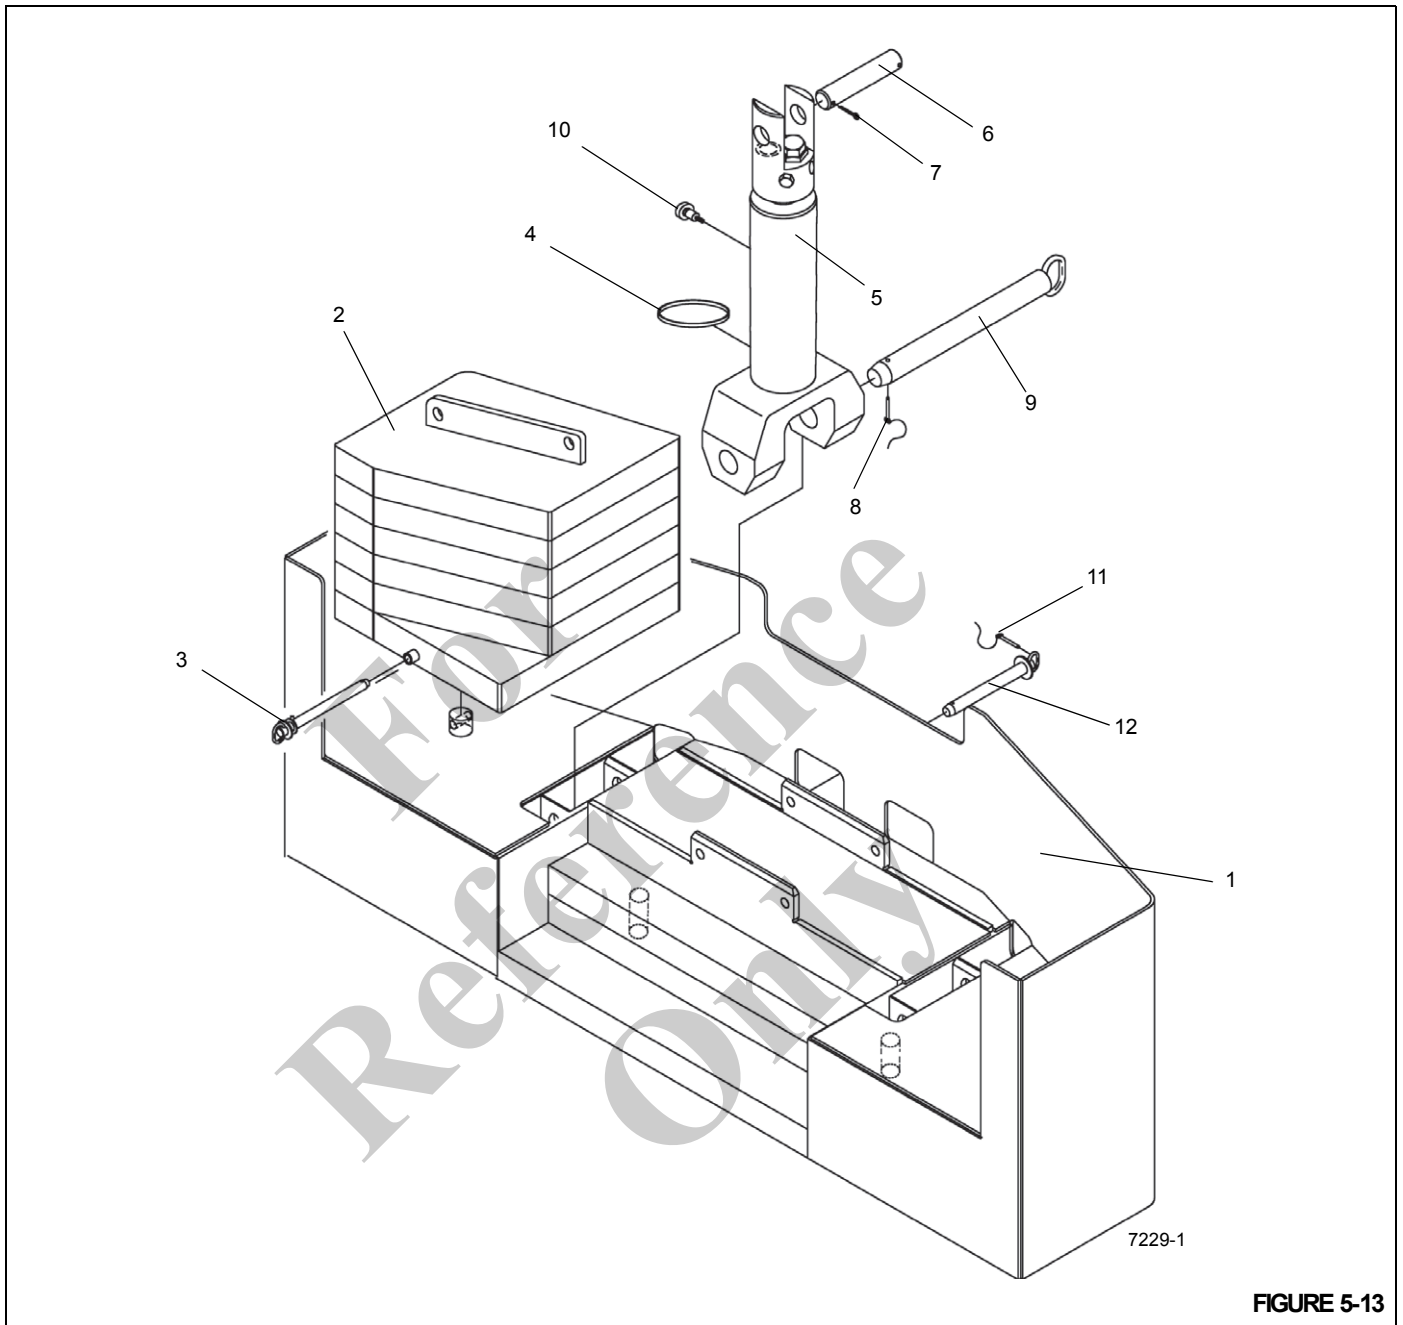
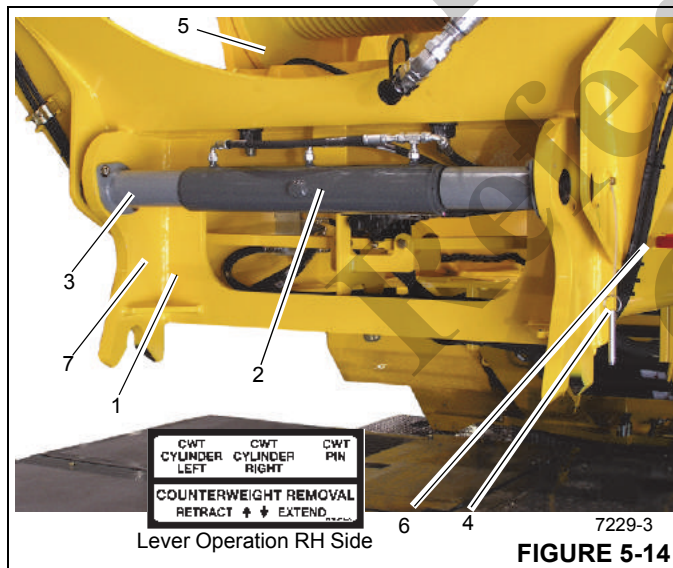

FIGURE 5-13
FIGURE 5-14
Adjustment of the counterweight stand (1) (Figure 5-12) supports is prohibited when the counterweight (1) (Figure 5-13) is resting on them.
- When installing counterweight (1) (Figure 5-13), make sure that both auxiliary hoist structure (7) (Figure 5-14) hydraulic mounting pins are fully extended and retainer pins are in place before counterweight is lifted.
- Before unpinning auxiliary hoist structure (7) (Figure 5-14), all counterweights must be fully lowered and firmly supported. Before lowering, make sure the auxiliary hoist structure (7) (Figure 5-14) is properly supported by counterweight removal cylinders (5) (Figure 5-13) and both hydraulic mounting pins are completely retracted.
6. Do not disconnect the lines to the counterweight removal cylinders (5) (Figure 5-13) at this time.
**NOTE:** It may be necessary to retract the counterweight removal cylinders (5) (Figure 5-13) to relieve weight from the counterweight to auxiliary hoist structure pins (12) (Figure 5-13).
7. Remove the hitch pins (11) (Figure 5-13) and the counterweight to hoist structure pins (12) (Figure 5-13). These are accessible through the holes in the back of the counterweight (1) (Figure 5-13).
8. Using the counterweight removal levers (6) (Figure 5-14), extend the counterweight removal cylinders (5) (Figure 5-13) and carefully lower the counterweight (1) (Figure 5-13) onto the counterweight supports.
9. Remove the detent pins (4) (Figure 5-14) to allow the pin removal cylinder (2) (Figure 5-14) to retract the pins on its rod ends.
10. Use the counterweight removal levers (6) (Figure 5-14) to retract the pins on the rod ends of the pin removal cylinder (2) (Figure 5-14) and unpin the auxiliary hoist structure (7) (Figure 5-14) from the turntable.
11. Retract the counterweight removal cylinders (5) (Figure 5-13) and carefully lower the auxiliary hoist structure (7) (Figure 5-14) onto the counterweight.
13. Secure the counterweight (1) (Figure 5-13) to the auxiliary hoist structure (7) (Figure 5-14) with the counterweight to hoist structure pins (12) (Figure 5-13) and hitch pins (11) (Figure 5-13).
Do not attempt to separate the auxiliary hoist structure (7) (Figure 5-14) from the counterweight (1) (Figure 5-13) while on the counterweight stand (1) (Figure 5-12). The auxiliary hoist structure (7) (Figure 5-14) may hit the counterweight (1) (Figure 5-13) and knock it off the stand.
On the heavy removable counterweight option (2) (Figure 5-13), do not use the lifting lugs on the heavy counterweights to lift the entire heavy counterweight and auxiliary hoist structure. The heavy counterweight lifting lugs are designed to lift the heavy removable counterweight only.
15. Attach an adequate lifting device with slings to the auxiliary hoist structure (7) (Figure 5-14). Use the crane to carefully transfer the auxiliary hoist structure (7) (Figure 5-14) and counterweight (1) (Figure 5-13) to the ground or suitable transport vehicle.
**NOTE:** Step 16 applies to the heavy removable counterweight (2) (Figure 5-13).
16. If desired, lessen the weight on the counterweight by removing the two heavy counterweight weldments (2) (Figure 5-13). To remove the weldments, attach an adequate lifting device with slings attached to the lifting lugs. Free the weldments from the counterweight by removing the pins. Using the lifting device, remove the weldments.
Assemble the standard removable counterweight (1) (Figure 5-13) and auxiliary hoist structure (7) (Figure 5-14) on the ground or on a suitable transport vehicle. Do not attempt to assemble on the counterweight stand. The auxiliary hoist structure may hit the counterweight and knock it off the stand.
Assemble the heavy removable counterweight (2) (Figure 5-13) and auxiliary hoist structure (7) (Figure 5-14) on the ground or on a suitable transport vehicle. Do not attempt to assemble on the counterweight stand (1) (Figure 5-12). The auxiliary hoist structure (7) (Figure 5-14) may hit the counterweight and knock it off the stand.
The heavy removable counterweight assembly (2) (Figure 5-13) must be installed with both heavy counterweights. Using only one heavy counterweight may cause the crane to become unstable.
**NOTE:** Step number 3 applies to the heavy removable counterweight (2) (Figure 5-13).
3. Attach an adequate lifting device with slings to each heavy counterweight weldment's lifting lugs. Using the lifting device, carefully install the two heavy counterweight weldments (2) (Figure 5-13) in place on the counterweight auxiliary hoist structure (7) (Figure 5-14). Pin the counterweight weldments in place with the pins.
4. Using an adequate lifting device with slings attached to the auxiliary hoist structure (7) (Figure 5-14), carefully place the auxiliary hoist structure (7) (Figure 5-14) onto the counterweight (1) (Figure 5-13).
5. Secure the counterweight (1) (Figure 5-13) to the counterweight removal cylinders (5) (Figure 5-13) with the cylinder to counterweight pins (9) (Figure 5-13) and hitch pins (8) (Figure 5-13). Secure the counterweight (1) (Figure 5-13) to the auxiliary hoist structure (7)
(Figure 5-14) with the counterweight to hoist structure pins (12) (Figure 5-13) and hitch pins (11) (Figure 5-13).
10. Remove the hitch pins (8) (Figure 5-13) and the counterweight to hoist structure pins (9) (Figure 5-13) to free the auxiliary hoist structure (7) (Figure 5-13) from the counterweight (1) (Figure 5-13).
11. Using the counterweight levers (6) (Figure 5-14), fully extend the counterweight removal cylinders (5) (Figure 5-13) and carefully raise the auxiliary hoist structure (7) (Figure 5-14) to meet the mating plates on the turntable.
12. Use the pin control lever (6) (Figure 5-14) to extend the pins on the rod ends of the pin removal cylinder (5) (Figure 5-14) and pin the auxiliary hoist structure (7) (Figure 5-14) to the turntable.
13. Install the detent pins (4) (Figure 5-14) to secure the pins on the rod ends of the pin removal cylinder (2) (Figure 5-14) to keep the auxiliary hoist structure (7) (Figure 5-14) secured.
14. Retract the counterweight removal cylinders (5) (Figure 5-13) and carefully raise the counterweight (1) (Figure 5-13) to its installed (working) position.
15. Secure the counterweight (1) (Figure 5-13) to the auxiliary hoist structure (7) (Figure 5-14) with the counterweight-to-hoist structure pins (12) (Figure 5-13).